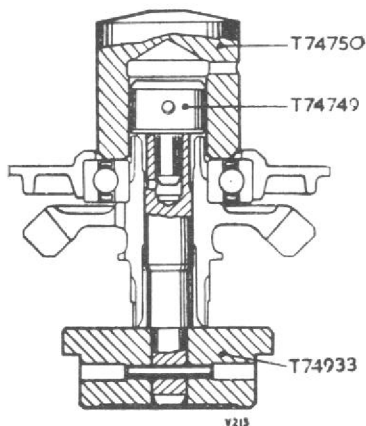
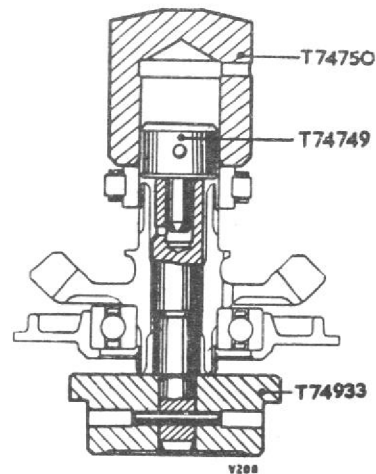

Fig. 6. Pressing the bearing and housing on to the lower vertical drive
Fig. 7. Pressing the inner race on to the lower vertical drive
- (5) Place the lower vertical drive gear, gear downwards, on press block T74933 and pass the mandrel through the bore of the drive gear into the press block.
- (6) Position the bearing and housing on the shaft of the gear.
- (7) Using guide plug T74749 and adapter T74750 (fig. 6) press on the bearing and housing until it abuts the shoulder behind the gear.
- (8) Remove the mandrel.
- (9) Invert the assembly on the press block and replace the mandrel.
- (10) Position the inner race of the roller bearing on the gear shaft and, using the guide plug and adapter, press the bearing on to the shaft until it abuts the shoulder behind the gear (fig. 7).